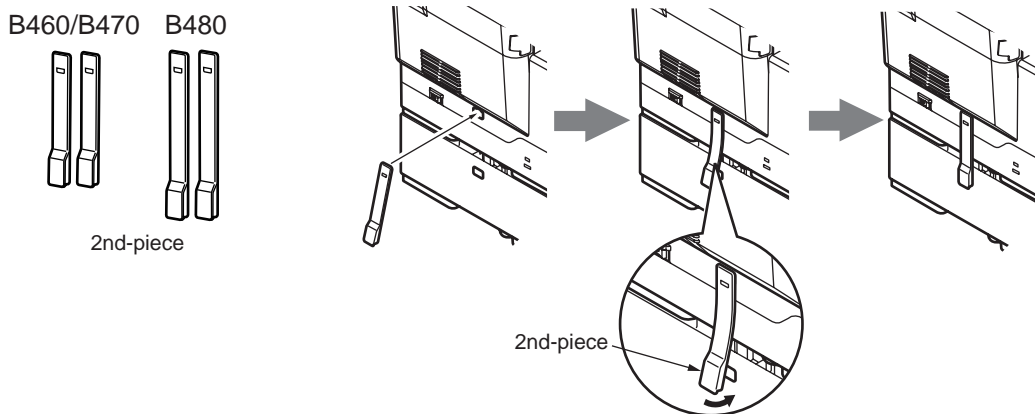

Fig 3.5.35
- 4) Attach the two 2nd-pieces as shown in Fig. 3.5.35.